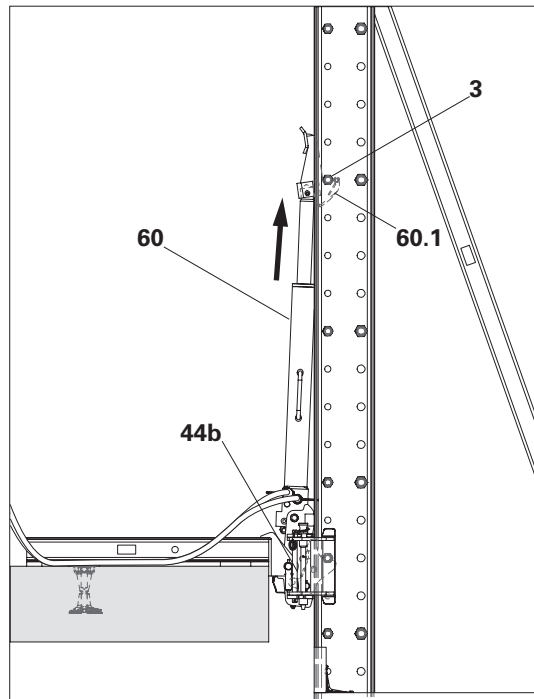

Fig. D4.03
3. Load is now carried by the piston with claw (**60.1**). (Fig. D4.03)